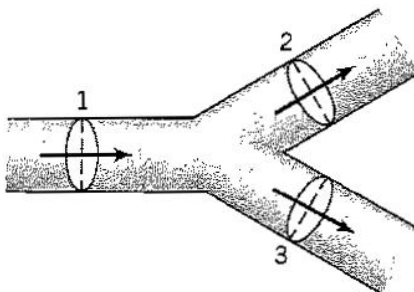

Figure P3.3:
3.3 The largest artery in the body is the one that supplies blood to the legs. As it comes down the trunk of the body, it splits into a Y-junction, as shown in Figure P3.3. Blood with specific gravity of 1.05 is pumped into the junction at a speed $V_1 = 1.5\text{ m/s}$. The diameter of the entrance flow is $d_1 = 20\text{ mm}$, and for the exit flow $d_2 = 15\text{ mm}$ and $d_3 = 12\text{ mm}$. If the mass flow rates at stations 2 and 3 are equal, find V_2 and V_3 .